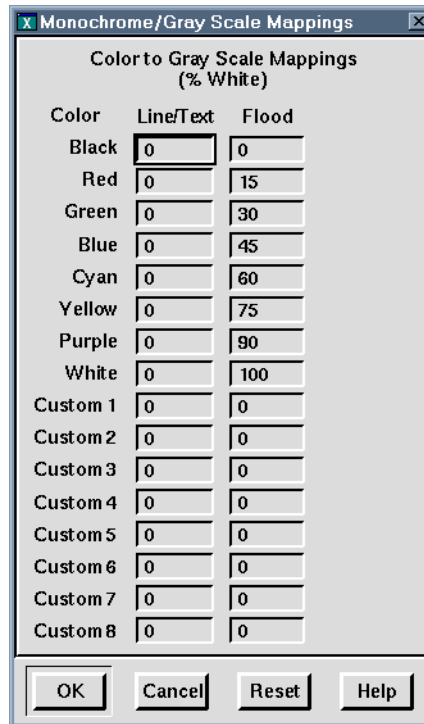

Figure 22-7. The Monochrome/Gray Scale Mappings dialog.
2. Click Color to Mono to bring up the Monochrome/Gray Scale Mappings dialog shown in Figure 22-7. This is a global dialog—the settings apply to all monochrome output formats.